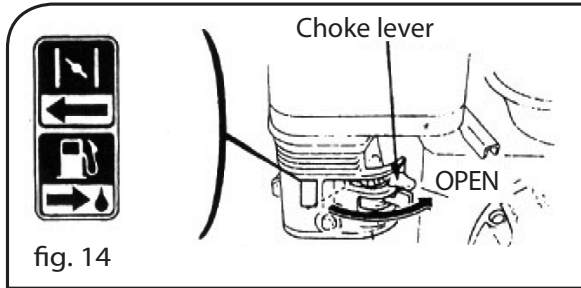

fig. 14
9. Preheat the engine and push back the choke lever to "OPEN" (Fig.14).